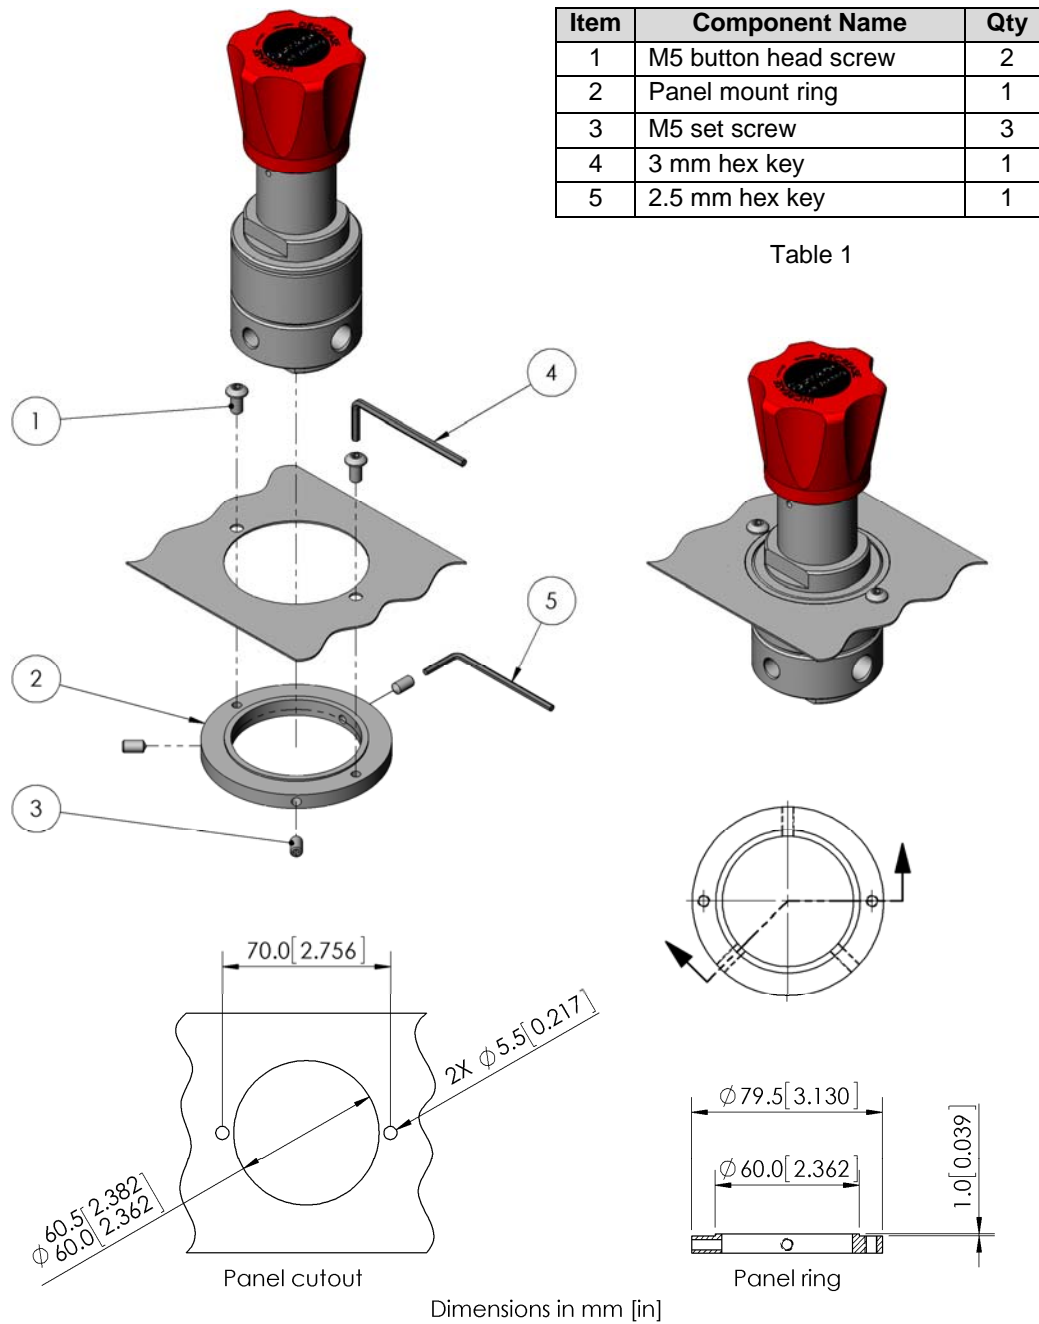

Fig 1
1. Cut the appropriate holes in the panel per the dimensions in Fig 1.
2. Affix the panel mount ring (2) to the regulator using the set screws (3). Take into consideration the desired orientation of the regulator ports relative to the mounting holes.
3. Insert the regulator through the panel and retain with the button head screws (1).